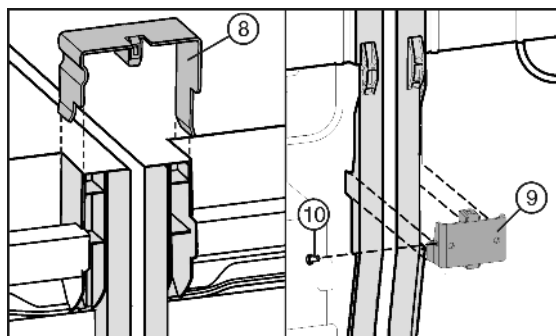

Fig. 7
- Insert the joining clamp Fig. 7 (8) at the top of the centre side walls.
- Insert the joining angle Fig. 7 (9) into the recess at the bottom.
- If the joining angle is too loose, fix it with a screw Fig. 7 (10).